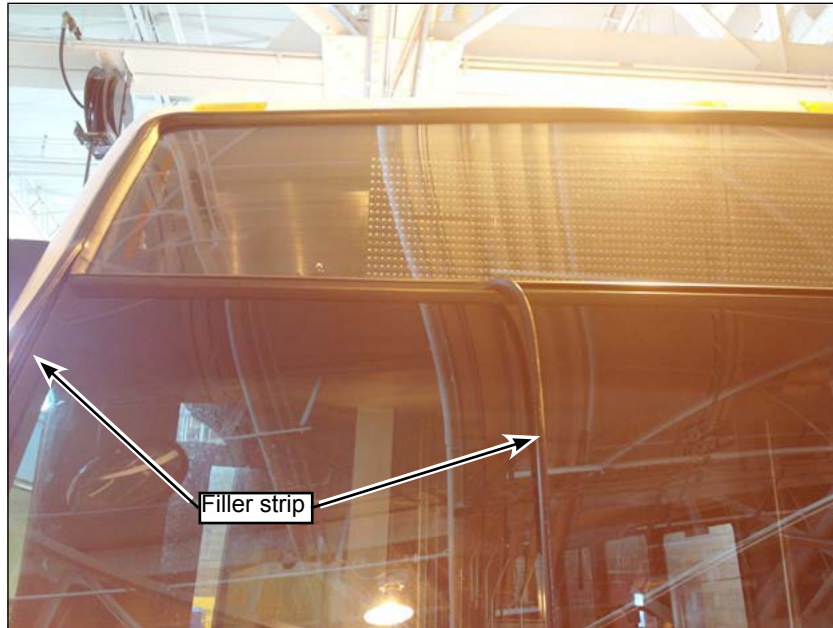

Figure 35 - Install Windshield
- 1.36. To reinstall the windshield, have two people outside the bus pushing the glass back into the gasket as a third person works the gasket around the glass. Once the gasket is in place, install the filler strips (see Figure 35).